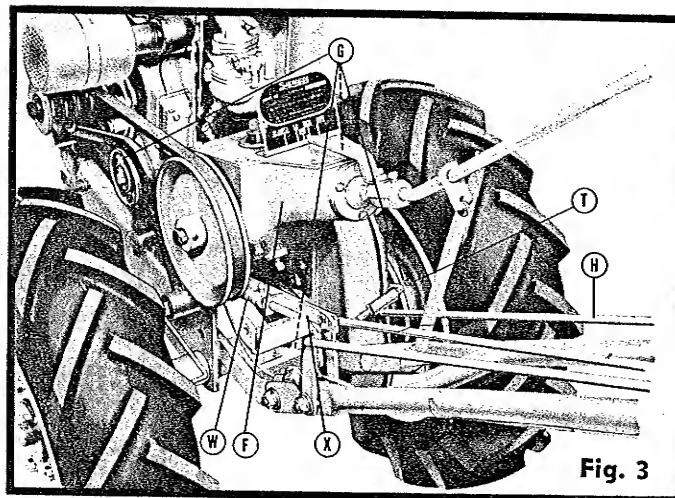

Fig. 3
11. Attach shift rod (H) to clevis assembly as shown in Fig. 3. Hold in place with cotter pin.
1. Adjust set collar on rod guide assembly (X), Fig. 3, so that spring (W) is compressed approximately $\frac{3}{8}$ inch when right hand lever (D), Fig. 1, is pulled back and clutch engaged.
4. Limit the travel of the idler pulley so that the drive belt is released just sufficiently to slip on the engine pulley. This adjustment is made by setting position of the lever stop (P) at base of lever (M).
idler pulley, the main axle housing, the gear case, and the differential housing. **They are located in Fig. 3 and designated with letter (G).** Add a few shots of grease approximately every 8 hours of use to all fittings. Use a general purpose semisolid grease in the grease gun supplied with the tractor.
The three oil plugs are located on the transmission gear case and cover (F, Fig. 3). The filler plug is on the transmission case cover, the oil level plug on the rear of the transmission case, and the drain plug on the bottom of the transmission case. To fill transmission remove filler and oil level plugs and pour oil into filler plug opening until it rises to the oil level plug opening. (Be sure the tractor is standing level). Replace plugs and tighten securely. Add fresh oil as required. Use SAE No. 90 oil all year round in the transmission.